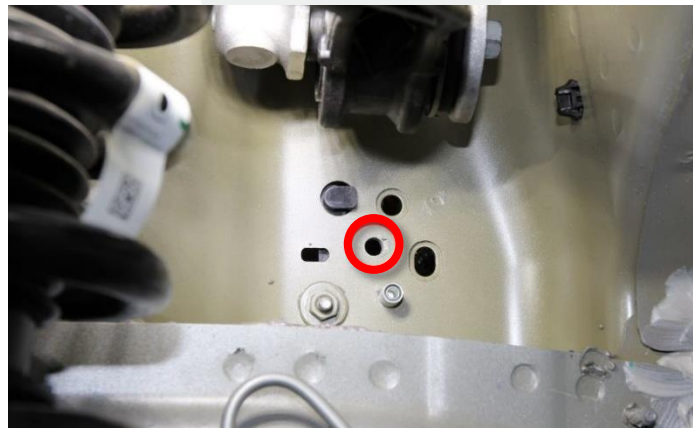

Figure 5
- Drill out the middle rivet location with a 3/16" (4.76 mm) bit, and then drill out the same rivet location with a 17/64" (2.77 mm) bit (Figure 5).